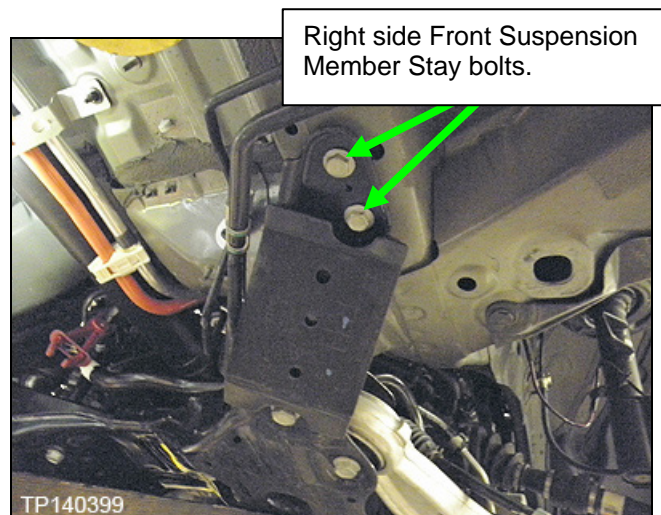
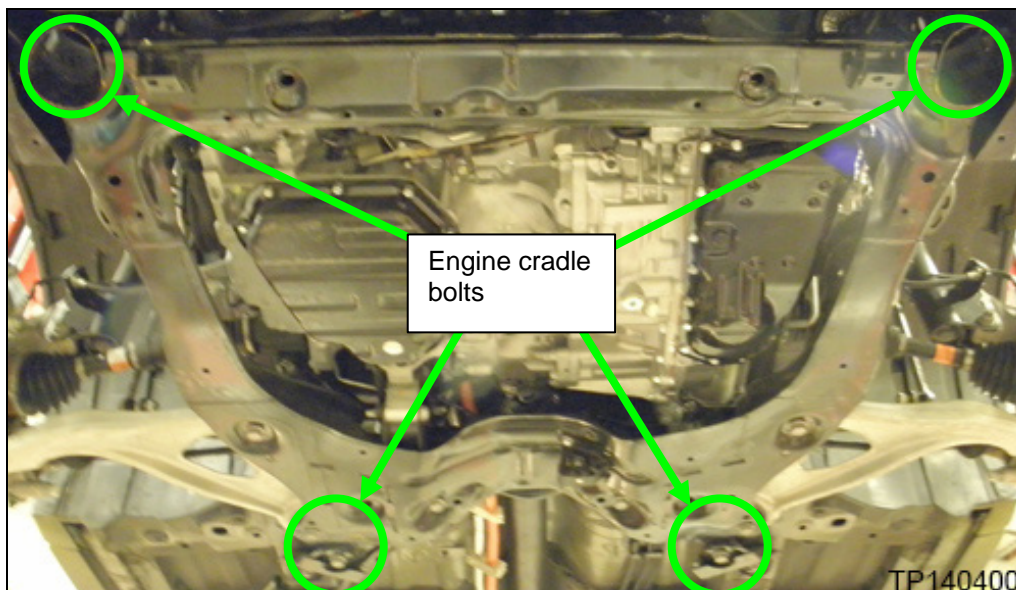

Figure 35
Figure 36
51. Remove the right and left Front Suspension Member Stay's bolts (Figure 35) and the engine cradle bolts (Figure 36).